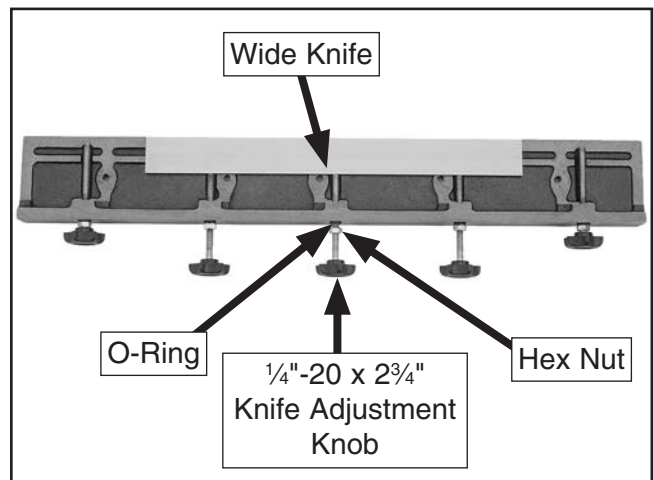

Figure 19. Wide knife placed on the slide bar even with the front edge.
- Install (5) $\frac{1}{4}$ "-20 x $2\frac{3}{4}$ " knife adjustment knobs on the slide bar, each with (1) O-ring and (1) $\frac{1}{4}$ "-20 hex nut. Then back the adjustment knobs out enough so that the knife can be positioned in the middle of the slide bar and even with its front edge, as shown in **Figure 19**.